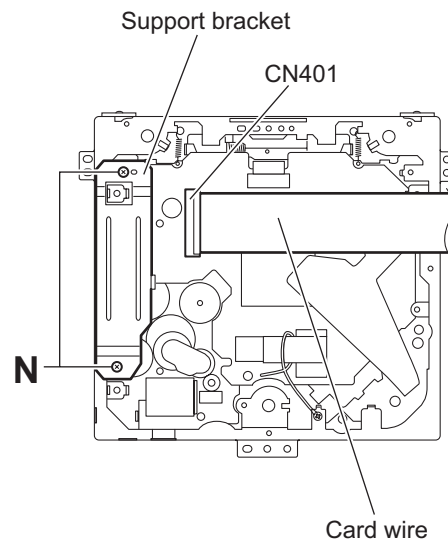

Fig.11
- When the resolution of DVD mechanism assembly is done sequentially, remove the two screws **N** attaching the support bracket. (See Fig.11.)
- Remove the card wire from the connector **CN401** as required. (See Fig.11.)